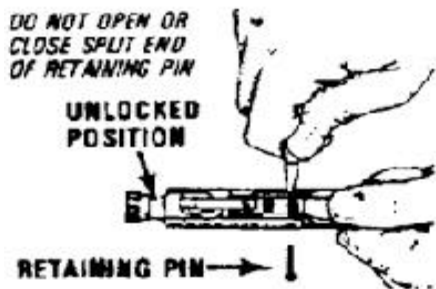

Figure E-12. Removing the firing pin retaining pin.
j. Remove the firing pin retaining pin (figure E-12).